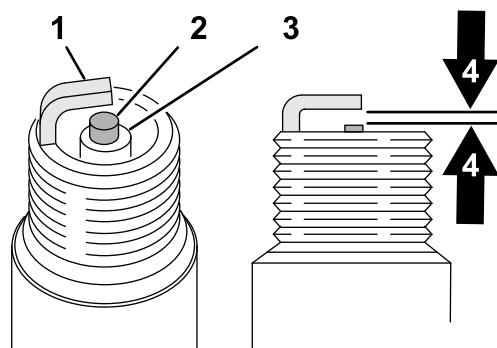

Figure 165
1. Look at the center of both spark plugs (Figure 165). If you see light brown or gray on the insulator, the engine is operating properly. A black coating on the insulator usually means the air cleaner is dirty.